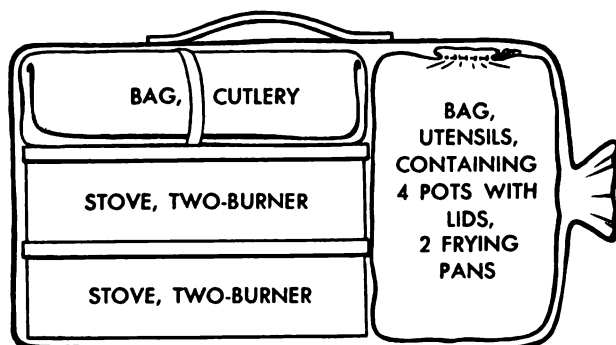

Figure 15. Outfit, cooking, 20-man, packed in canvas carrying bag.
c. HOW TO PACK. (see fig. 15). (1) Lock each stove into its case.
(2) Place one stove and case inside the large canvas carrying bag, lengthwise, at the rear. (Have the handle of the bag at the top.) Place the second stove and case on top of the first.
(3) Place the fork, knives, can openers, spoon and sharpening stone into the cutlery roll, and put roll into cutlery bag. Also put into cutlery bag the brush, dipper, ladle, salt and pepper shakers and cake turner. Lay the cutlery bag on top of the stoves.
(4) Nest the four cooking pots and lids. Then nest all pots and lids in the frying pans, one pan at the top and one at the bottom.
(5) Tie all nested utensils into the utensil bag and place this bag inside the carrying bag, at the front.
(6) Tie the carrying bag securely.